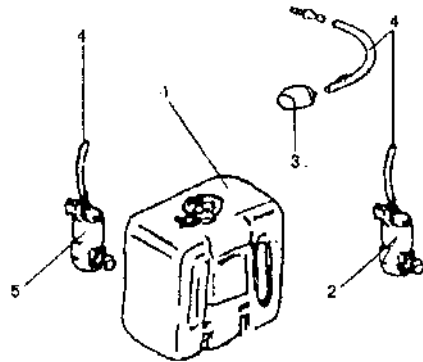

Figure 6.4-9
(1) For structure of rear window washer, see Figure 6.4-9.